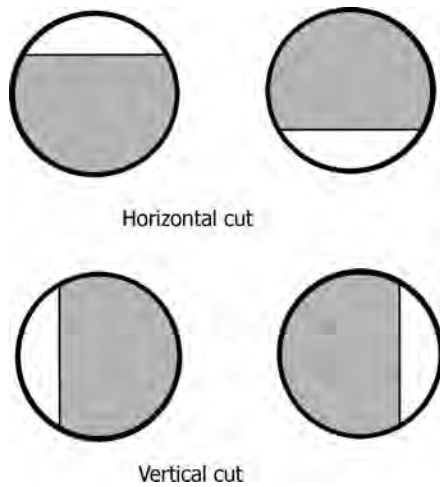

FIGURE 10.27 Baffle cut orientations.
- Figure 10.27 illustrates different baffle cut orientations.
- For single-phase fluids on the shell side, a horizontal baffle cut (Figure 10.27) is recommended, because this minimizes accumulation of deposits at the bottom of the shell and also prevents stratification.